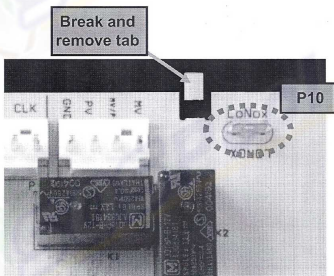

Fig. 14
2. Use pliers to break off the tab shown in Fig. 14.
3. Attach the wire from the air switch to the P-10 location shown in Fig. 14.